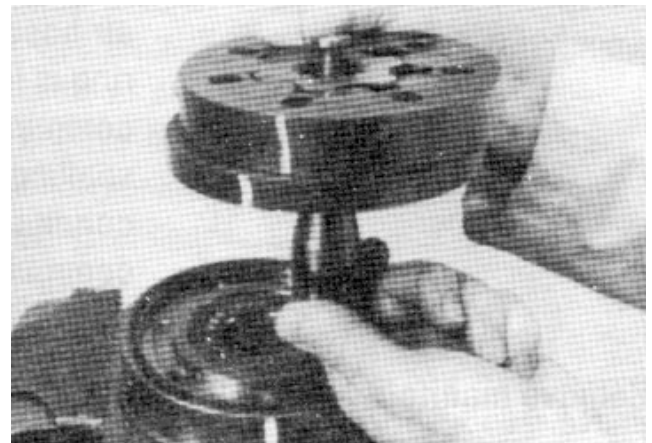

Figure 35
8. Mark surface of rotor (19) and stator (21) that is facing up with etching ink or a grease pencil before removing from the wheel motor. This will make sure correct reassembly of the rotor into the stator and the rotor set into wheel motor.
9. Remove rotor set and wearplate (18) together, and retain the rotor set in its assembled form with the same vane (20) to stator (21) contact surfaces. The drive link (13) may come away from the coupling shaft (11) with the rotor set and wearplate. You may have to shift the rotor set on the wearplate to work the drive link out of the rotor (19) and wearplate (Fig. 35).